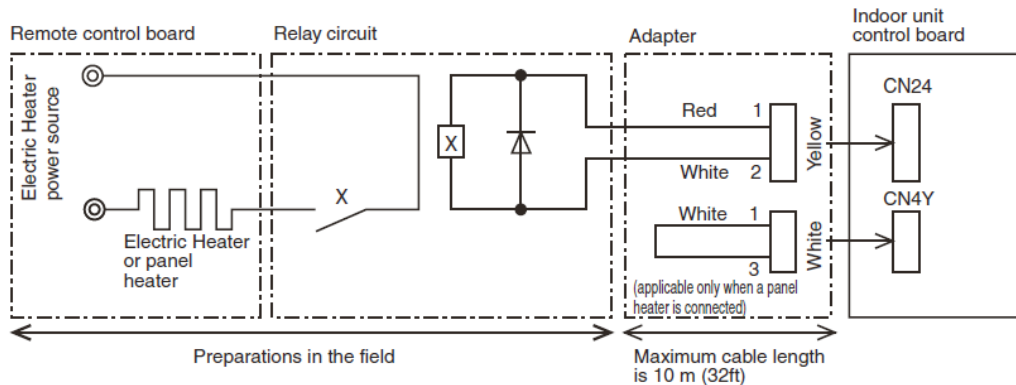

Figure 4. Wiring Diagram for PEA(D) and SEZ indoor units
Figure 4 illustrates a typical wiring diagram for PEA(D) and SEZ indoor units using CN-24: